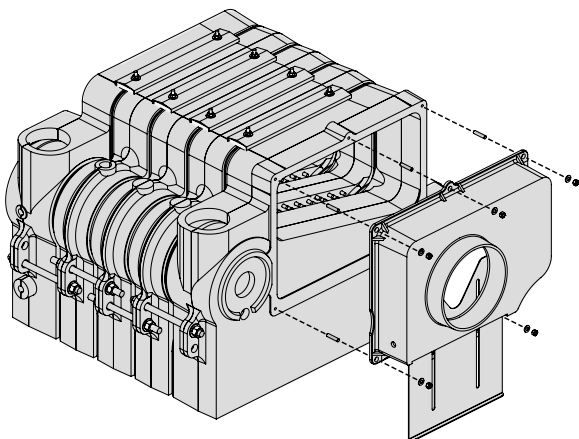

Figure 2.10: Rear Flue Collar Attachment
2. Attach the Flue Collar to the Back Section with 5/16" x 1-1/2" studs, flat washers and hex nuts supplied. See Figure 2.10.
3. Attach the Rear Observation Door to the Rear Section with four (4) 5/16"-18 x 3/4" hex head bolts provided.